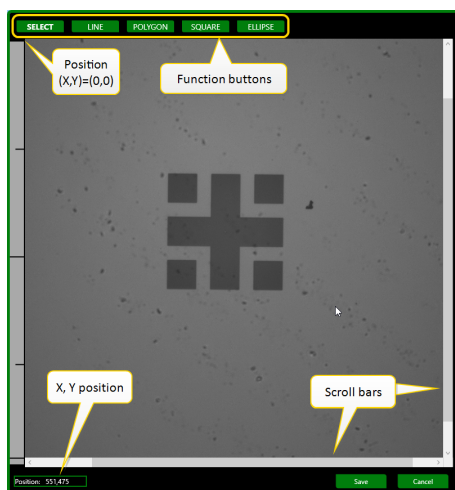

Figure 3-46 Draw window after opening
2. Press **Draw mode** to open the draw window, see Figure 3-46.